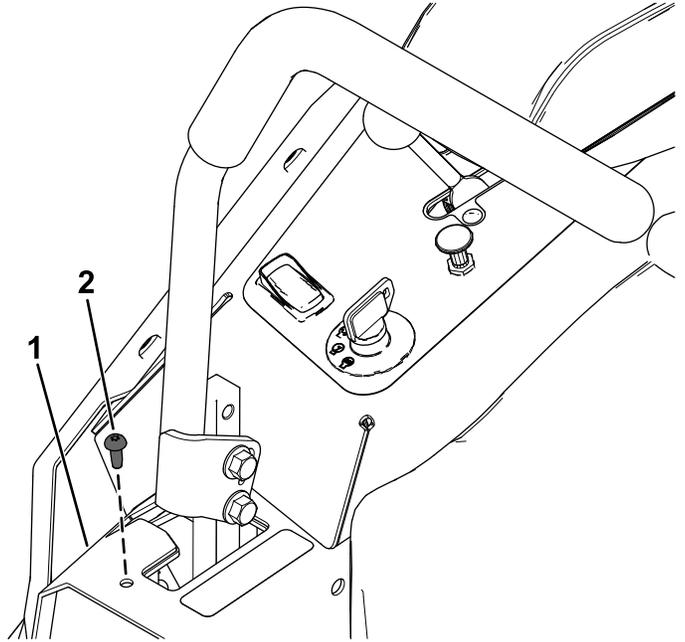

Figure 9
2. Remove the self-threading screw from the right motion-control cover (Figure 9).
- Install the previously removed self-threading screw to the right motion-control cover (Figure 9).